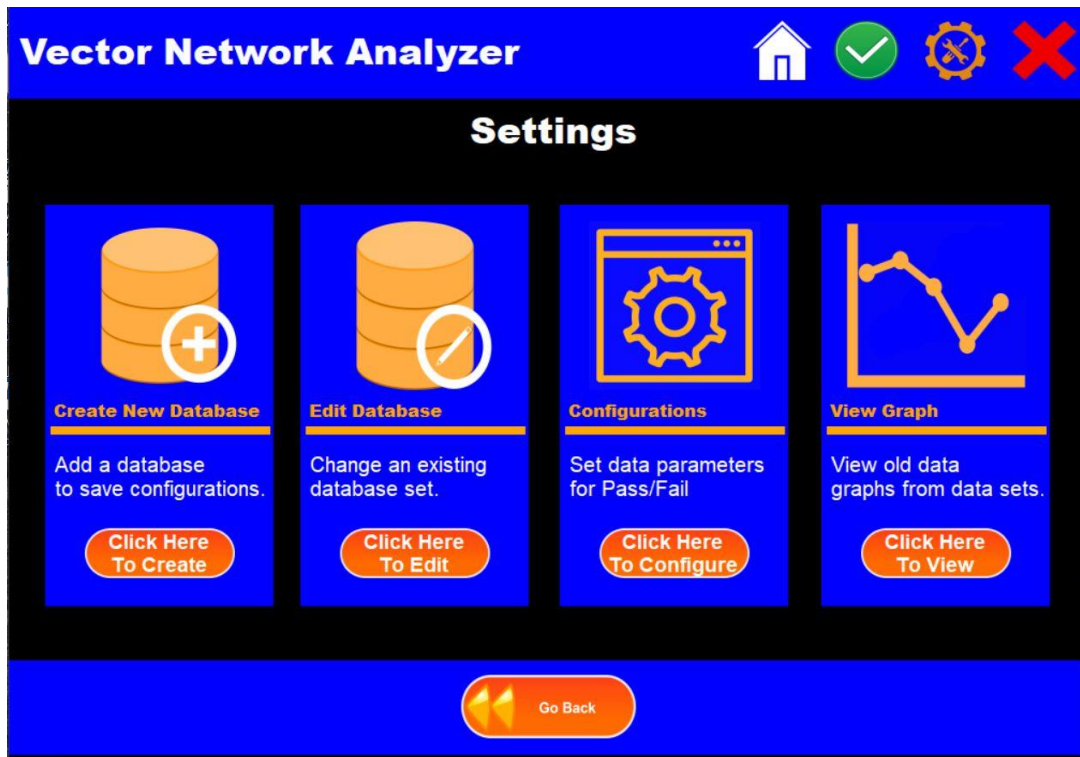

Figure 25 VNA Options Menu
1. Select Edit Database from the options menu in figure 25
1. **Select** Configurations from options menu in Figure 25